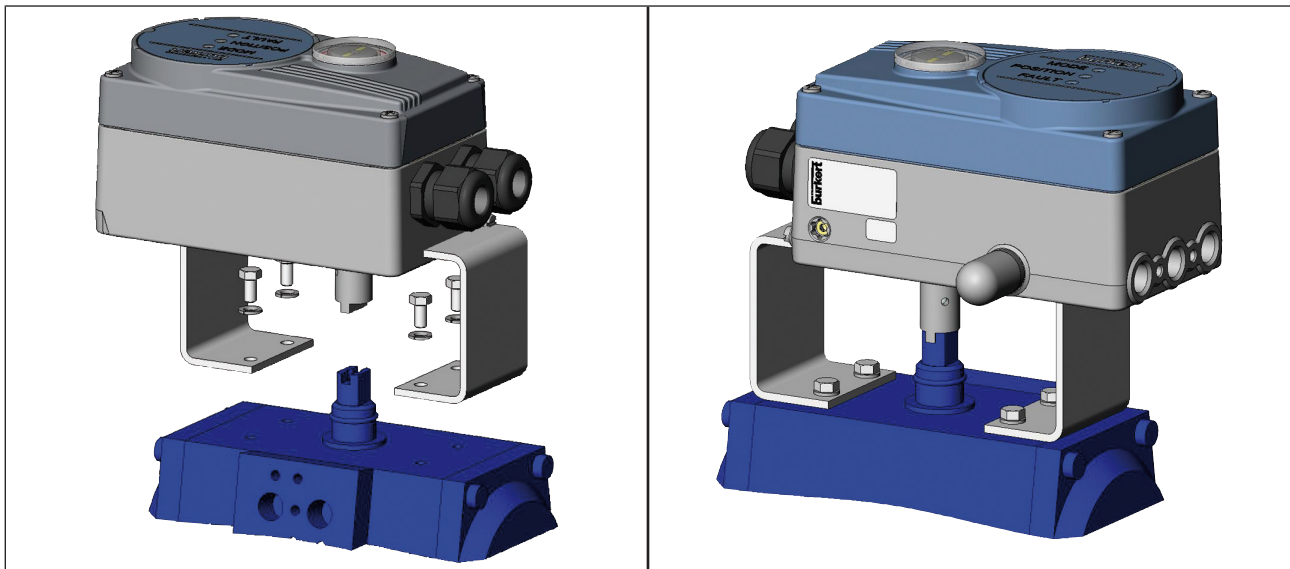

Fig. 30: Rotary actuator attachment
→ Place the positioner with the assembly bridge on the rotary actuator and attach it using four hexagon bolts ⑥ (see “Fig. 30”).